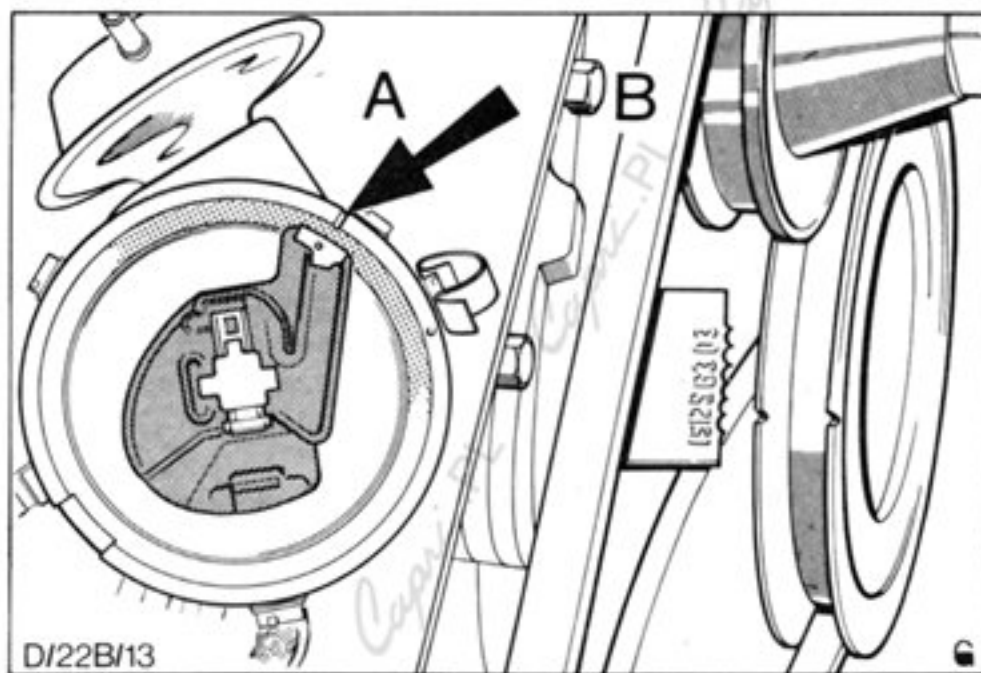

Fig.36. Engine set at 12° BTDC.
- (b) Turn engine to 12° BTDC on No.1. cylinder, Fig.36.